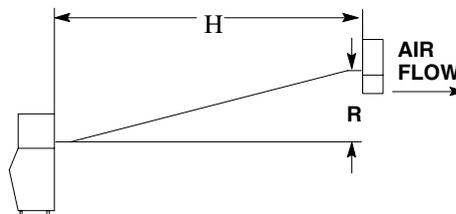

FIGURE 25
- a. Insert measured rise (R) into the formula and multiply it by 1.7 to get a calculated rise (See Figure 25).